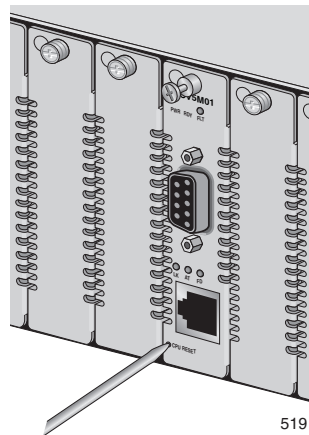

Figure 52. Resetting the AT-CV5M01 Management Card
2. Press the reset button with the tip of a pen or a non-conductive pointed object, as shown in Figure 52.